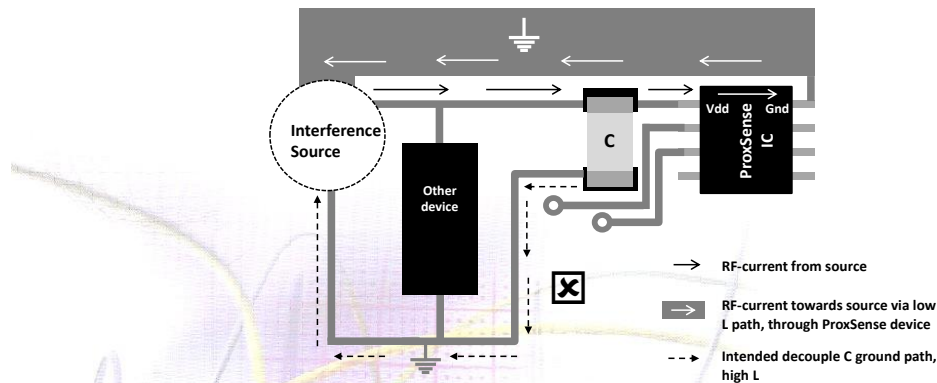

Figure 6: Example to illustrate importance of low L ground
- Consider Figure 6. Decoupling C placed right at the ProxSense IC, but return path towards the source have high L. RF-currents not shunted by C, but flow through IC via low L path.